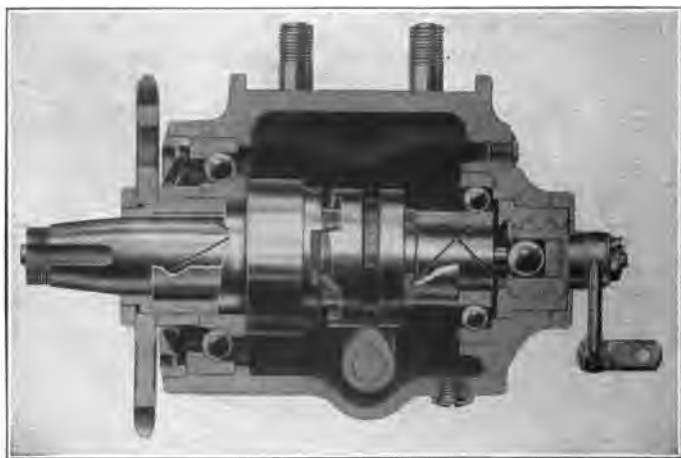

Fig. 45. Indian Neutral Countershaft
*One-Speed.* The one-speed gear—if it can be so called—is merely a dog-clutch arrangement, Fig. 45, used to disconnect the motor from the rear wheels when the clutch is in engagement. The central part is a ring which can be moved from right to left in order to fit the notches in its face into those on an adjacent ring connected to the driving sprocket. The sliding of this member is accomplished by means of the small lever.